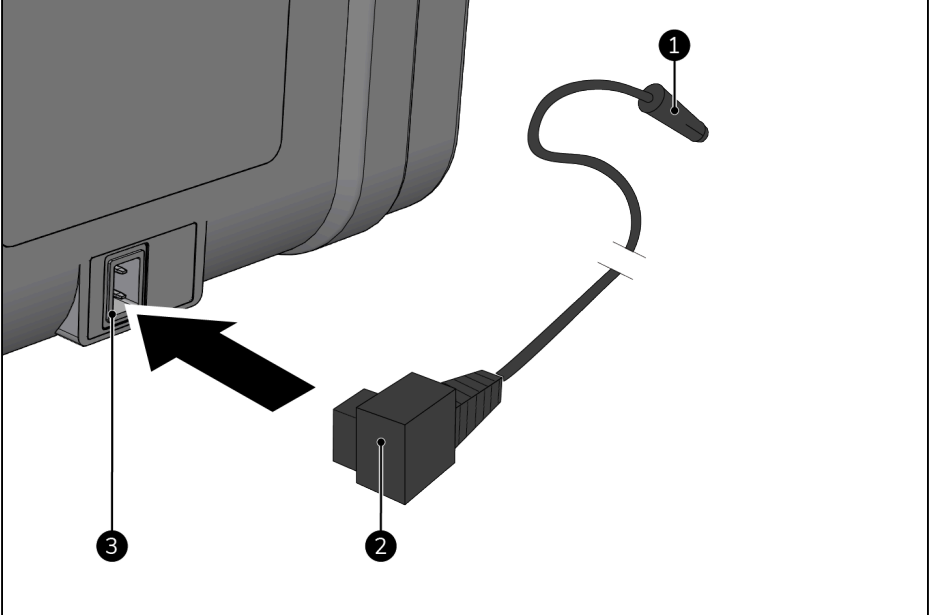

Figure 17.
3. Place the power connector (Figure 17, pos. 2) into the power supply of the device (Figure 17, pos. 3).
4. Place the auxiliary power plug (Figure 17, pos. 1) into an easily accessible 12 V or 24 V auxiliary power supply in a vehicle or vessel.